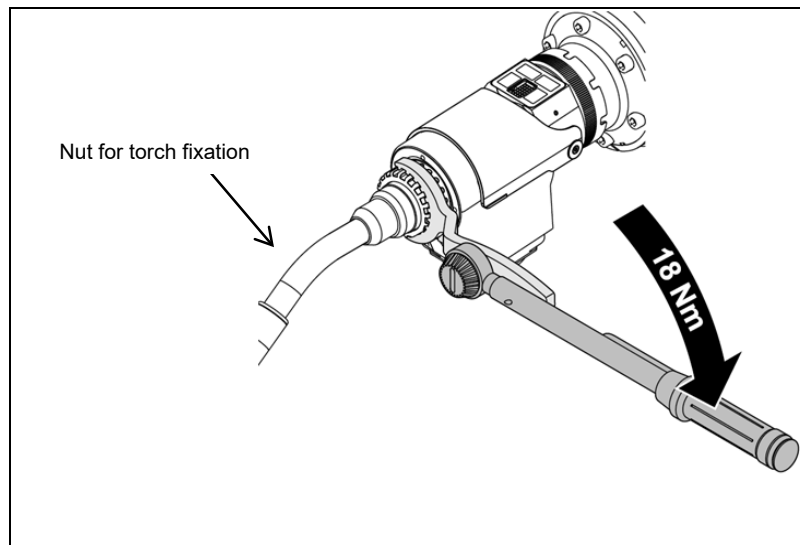

Fig. 7.6 (a) Replacing the torch neck
- 1 Loosen the nut for torch fixation as shown in Fig. 7.6 (a).